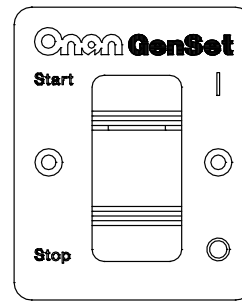

FIGURE 2-5. REMOTE SWITCH
- Remote switch with status indicator light only (Figure 2-5).